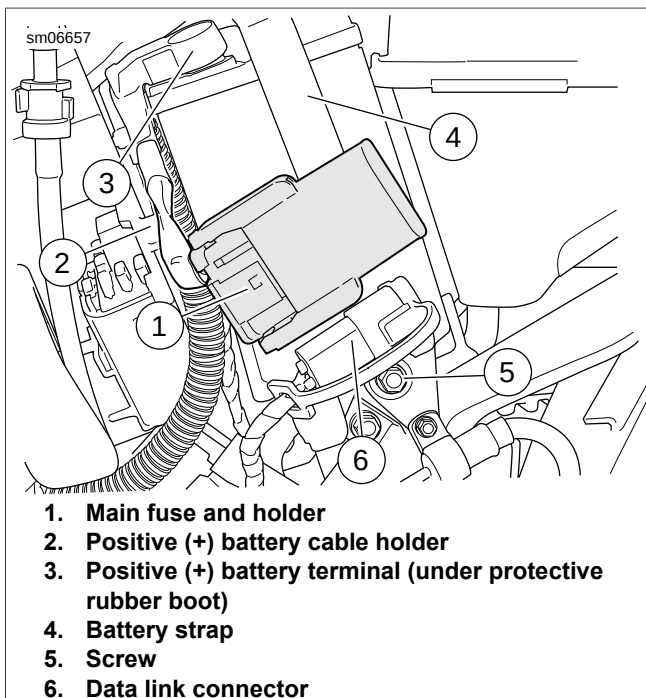

Figure 1-71. Main Fuse and Battery Location: All Models
4. See Figure 1-71. Press main fuse holder (1) toward the rear of the motorcycle until it pops off its mounting pin on battery strap (4). Remove main fuse holder from battery strap.
5. Press data link connector (6) toward the rear of the motorcycle until it pops off its mounting pin on battery strap. Remove the connector from battery strap.
6. Remove battery strap screw (5). Unhook battery strap from battery tray mount on top of battery and remove strap.
7. Lift up protective rubber boot covering battery positive (+) terminal (3). Remove screw from battery positive (+) terminal and remove positive (+) battery cable.
8. Disconnect positive (+) battery cable from cable holder (2).
- 11. See Figure 1-71. With negative battery cable disconnected, insert positive terminal screw through main fuse cable then main positive battery cable. Install screw into positive battery terminal (3). Tighten to 60-70 in-lbs (6.8-7.9 Nm).